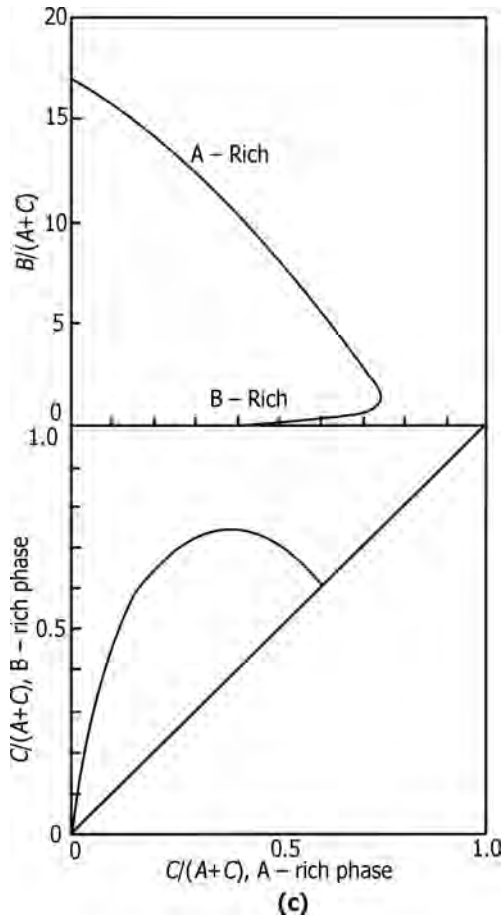

FIGURE 17.45 (Continued)
- > 1-Hexene (A)–tetramethylene sulfone (B)–benzene (C) at 50°C.
- > Acetone (A)–water (B)–methyl isobutyl ketone (C).
- > Acetic acid (A)–water (B)–methyl isobutyl ketone (C).
- > Figure 17.45 represents Type I equilibria for 1-hexene (A)–tetramethylene sulfone (B)–benzene (C).
FIGURE 17.45 Ternary equilibria for Type I system. 1-Hexene (A)–tetramethylene sulfone (B)–benzene (C) at 50°C. (a) Equilateral triangular plot, (b) right angular triangular plot, and (c) rectangular coordinate plot (Janecke Diagram, solvent-free coordinates).